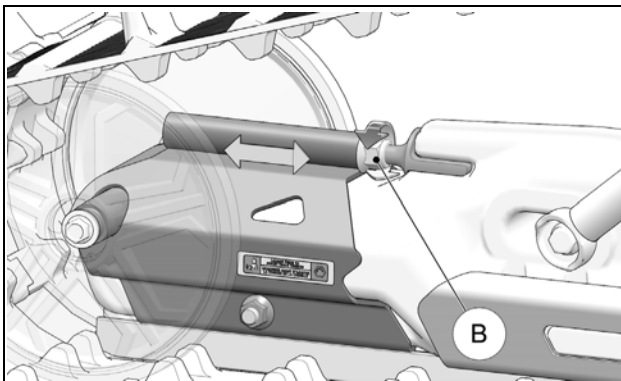

Figure 24
To adjust track tension, turn tension adjustment nut (B) clockwise or counter-clockwise to obtain the recommended track tension. See Figure 24.